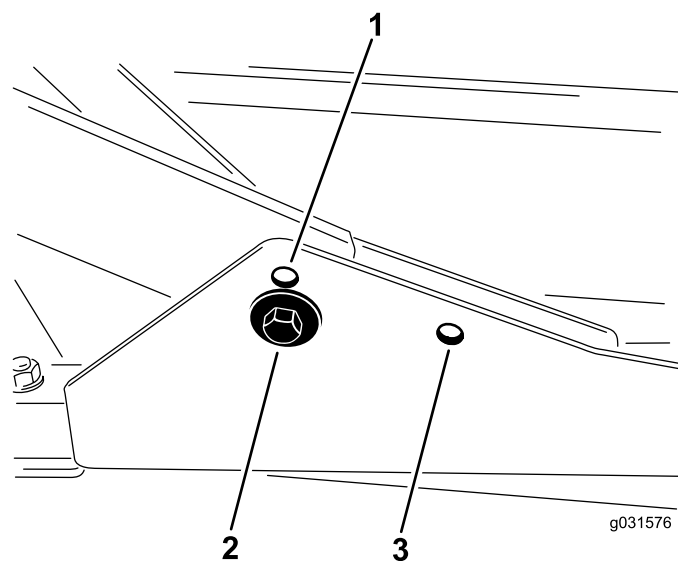

Figure 17
1. For heights of cut in the 2 to 7.6 cm (3/4 to 3 inches) range, mount the front carrier frames in the lower, front mounting holes (Figure 17).
2. For heights of cut in the 6.3 to 10 cm (2-1/2 to 4 inches) range, mount the front carrier frames in the upper, front mounting holes (Figure 17).
For all heights of cut, mount the rear cutting unit in the rear mounting holes (Figure 17).